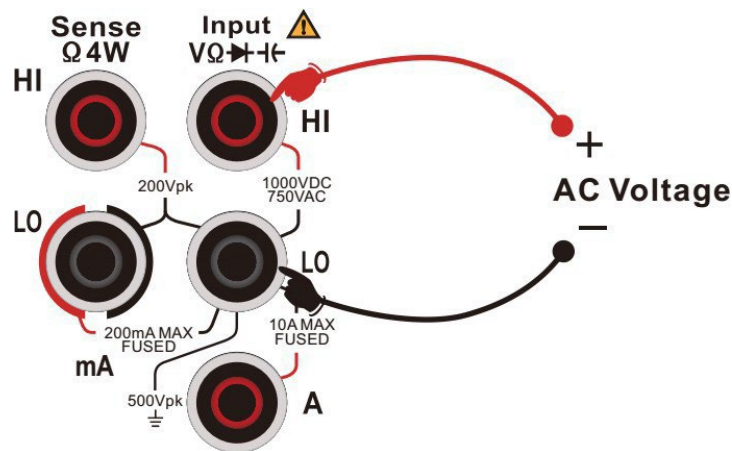

Figure 2–15 Measuring Connection of AC Voltage
- As shown in Figure 2–15, connect the test leads to the voltage to be measured, the red test lead to the “HI” terminal of the input jack and the black test lead to the “LO” terminal of the input jack.